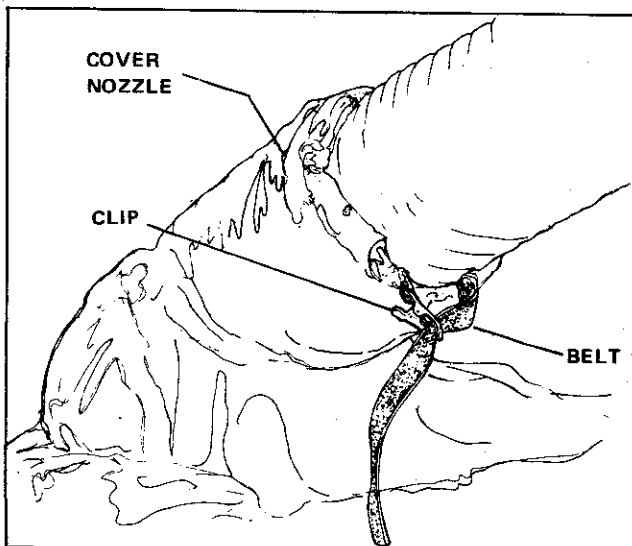

Figure 5. Installing Hose in Cover
- Insert the free end of the discharge hose through the opening in the dump cart cover so that it extends at least 12 inches into the cover. Tighten the cover opening around the discharge hose with the belt in the cover opening. (See figure 5.)